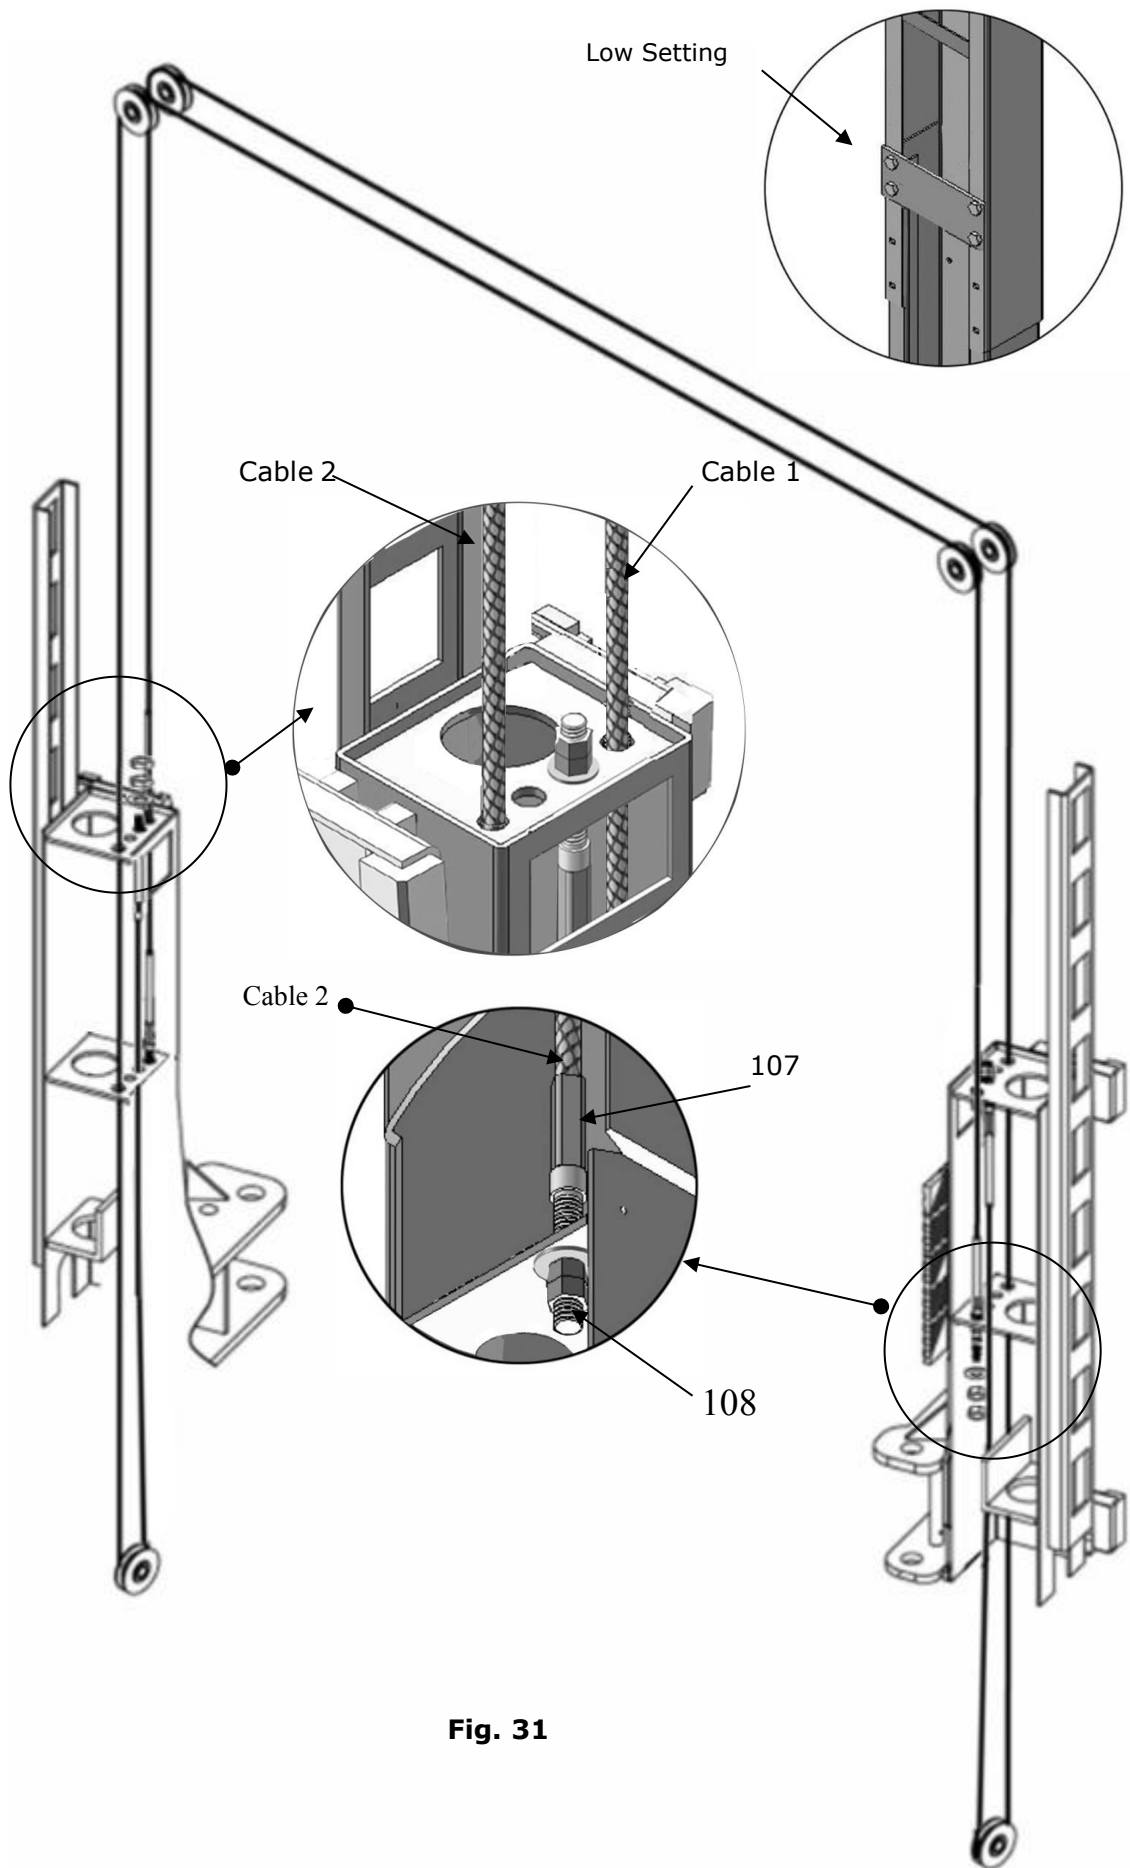

Fig. 31
2. Low setting cable connection. (See Fig. 31).